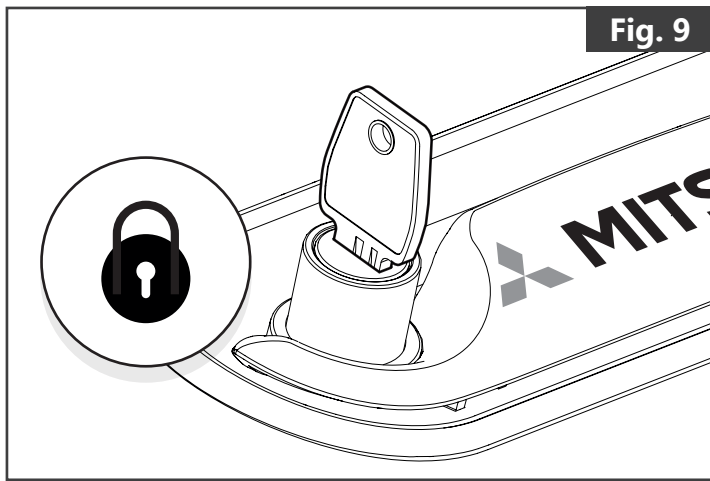

Fig. 9
- Make sure the cover is unlocked (**Fig. 9+10**)